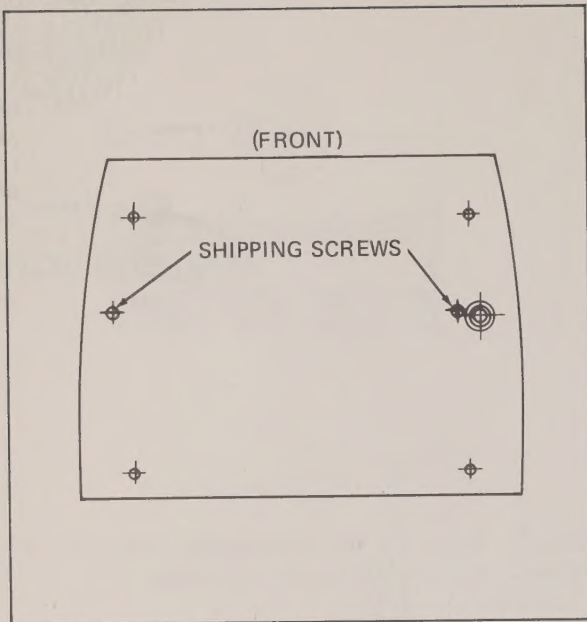

Figure 2-1. Location of Shipping Screws
5. Remove the two shipping screws shown in Figure 2-1. The printer will not operate properly with the shipping screws in place.